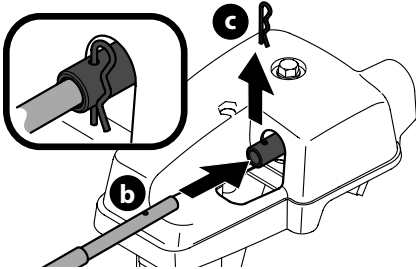

Figure 23
- Remove hairpin clip (c) from rear of chute control head (Figure 23).
- Insert flex shaft (b) into rear of chute control head, with hairpin clip (c) removed in Step 4 (Figure 23).